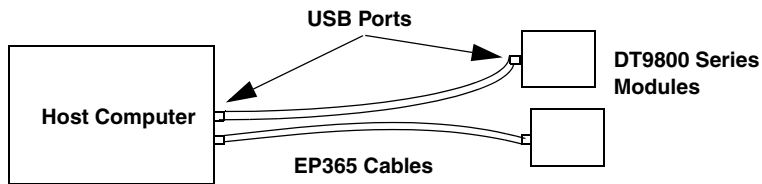

Figure 2: Attaching the Module to the Host Computer
2. Attach the other end of the EP365 cable to one of the USB ports on the host computer, as shown in Figure 2.